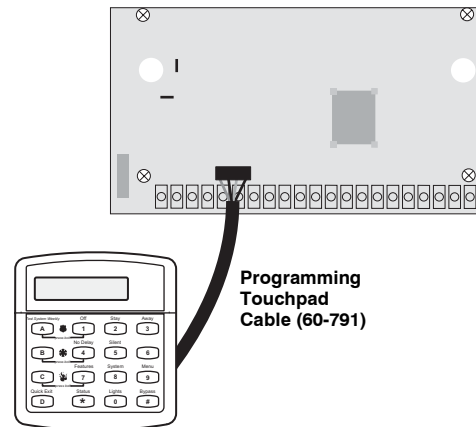

Figure 5. Connecting a Programming Touchpad
1. With the panel powered up, connect the cable to the Programming Touchpad Header (see Figure 5).
2. Connect the cable plug to the panel Programming Touchpad Header pins (see Figure 5).